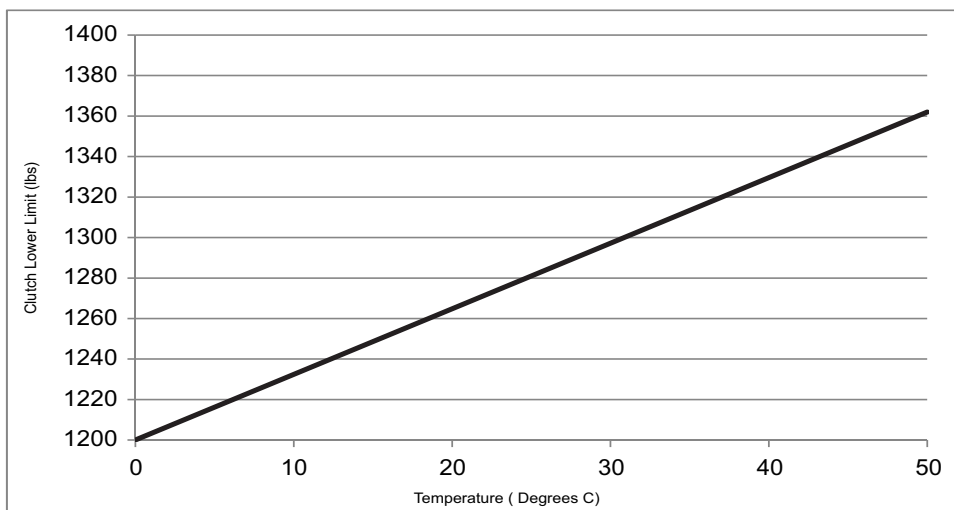

Figure 1. Lower limit for the 600 lb capacity hoists
- a. If the test results indicate a value above the acceptable lower limits per Table 2 and Figure 1 of Goodrich ASB 44301-10-18 Revision 6, proceed with step 3.
- b. If the test results indicate a value below the acceptable lower limit per Table 2 and Figure 1 of Goodrich ASB 44301-10-18 Revision 6, remove the hoist from service before the next hoist operation.
42315	Table 2/Figure 1
42325	Table 2/Figure 1
44301-10-4, -7, -9, -12, -13	Table 2/Figure 1
44311	Table 2/Figure 1
44312	Table 2/Figure 1
44314	Table 2/Figure 1
44315	Table 2/Figure 1
44316	Table 2/Figure 1
44318	Table 2/Figure 1